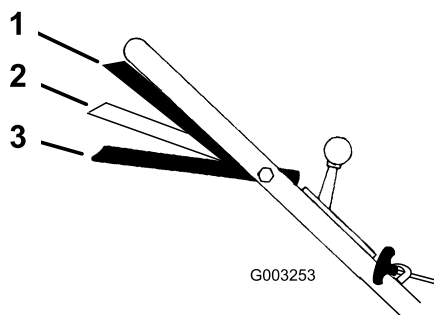

Figure 16
1. Move the ground speed control to the Neutral (N) position.
3. Squeeze the blade control bar against the handle to the Run/Drive position (Figure 16).
Note: Do not shift speeds while you squeeze the blade control bar against the handle in the Run/Drive position; this can damage the transmission. Move the blade control bar to the Run/Shift position (Figure 16) when you change the ground speed.